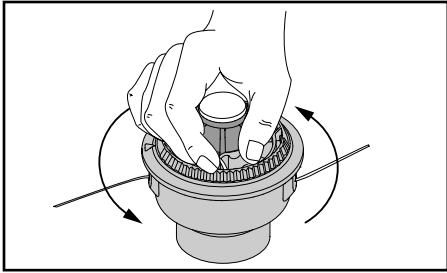

Fig. 17
- Wind the inner reel counterclockwise until approximately four (4) inches of line remains outside of the eyelets in the outer spool (Fig. 17).